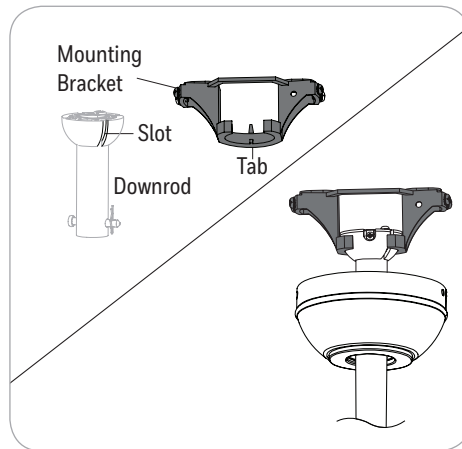

Figure 2.8
8. Install the ball end of the downrod into the opening of the mounting bracket (Figure 2.8). The downrod should not rotate if installed correctly. **WARNING:** Failure to align the slot in the ball with the tap on the mounting bracket may cause the fan to fall, which could result in injury or death.